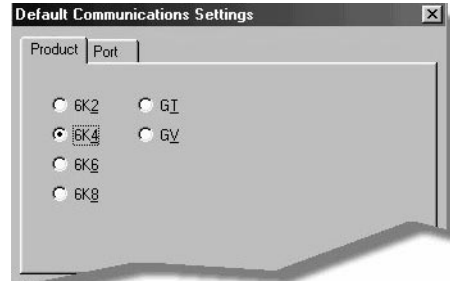

Figure 2-4: Selecting the 6K Controller
4. On the **Product** tab, select the 6K controller that you will use, as shown in Figure 2-4.